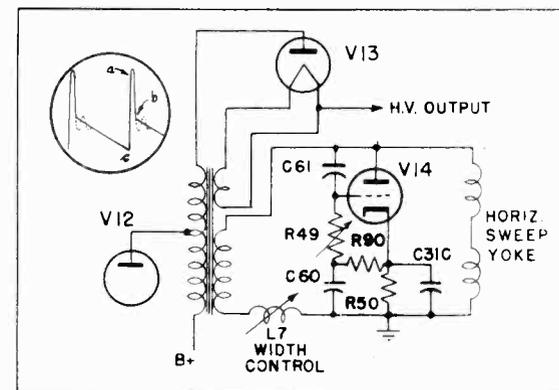

Fig. 6. Horizontal Sweep Output
6. HORIZONTAL SWEEP OUTPUT (See Figure 6)—
The horizontal sawtooth voltage generated by the multivibrator, V11, is shaped and then amplified by a Type 807 tube, V12. The output of this tube is coupled to the horizontal deflection yoke through an impedance matching transformer, T9. An oscillatory voltage, as shown in the dotted line in the wave shape at the upper left of Figure 6, which results from the rapid retrace in transformer T9, is removed by the damping tube, V14. This tube is a triode Type 6AS7 and by its use the transient may be dampened, linearity controlled and the positive overshoot voltage retained for use in the high voltage supply. The linearity of the horizontal trace is controlled by varying the voltage wave shape applied to the grid of V14 by potentiometer R49. The horizontal size is varied by the adjustable iron core inductance, L7, which is in series with the output to the yoke.
This "kick" voltage is shown in the wave shape shown as a-b in Figure 6. This voltage is generated in the primary winding and is further increased by an additional winding added to the transformer which connects to the rectifier tube plate of V13. The rectifier tube, V13, is a Type 8016 which derives its filament voltage from the horizontal sweep transformer T9 by a single turn around the transformer. Because of the high frequency which is rectified, a 500 mmf capacitor is more than sufficient for filtering purposes.